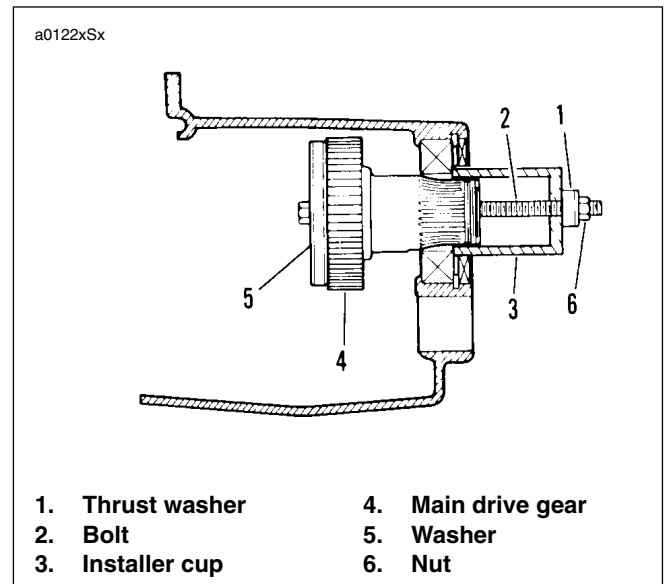

Figure 6-71. Main Drive Gear Installation
2. See Figure 6-71. Use MAIN DRIVE GEAR REMOVER AND INSTALLER (Part No. HD-35316-A) for assembly.
- a. Take bolt (2) and place washer (5) followed by main drive gear (4) over end of bolt.
- c. Insert threaded end of bolt (2) through installer cup (3) and thrust washer (1).
- d. Thread nut (6) onto end of bolt (2). Tighten nut (6) until shoulder on gear (4) bottoms against inner race of bearing.